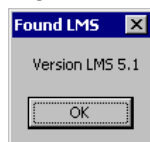

Figure 6. Found LMS
10. After downloading the parameters, which can take up to a minute a checksum check will be done to ensure that the LMS has received the new parameters. If the checksum is correct a message box is shown to confirm this, see Figure 6.